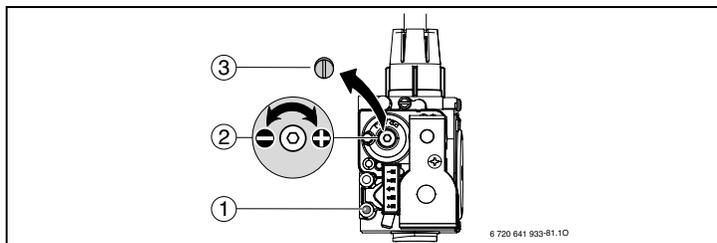
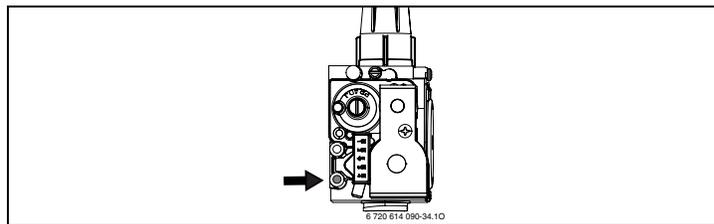

Fig. 6 Set minimum nominal output
Fig. 8 Check inlet gas pressure
- ▶ Remove the sealed screw (→ Fig. 6, [3]) from gas valve adjustment screw (→ Fig. 6, [2]) and set CO2 or O2 level for minimum nominal output.
- ▶ Reinstall the screw (→ Fig. 6, [3]) to cover the gas valve adjustment screw.
- ▶ Loosen the screw in the test port for gas inlet pressure (→ Fig. 6, [1]) and connect a pressure gauge (→ Fig. 8).